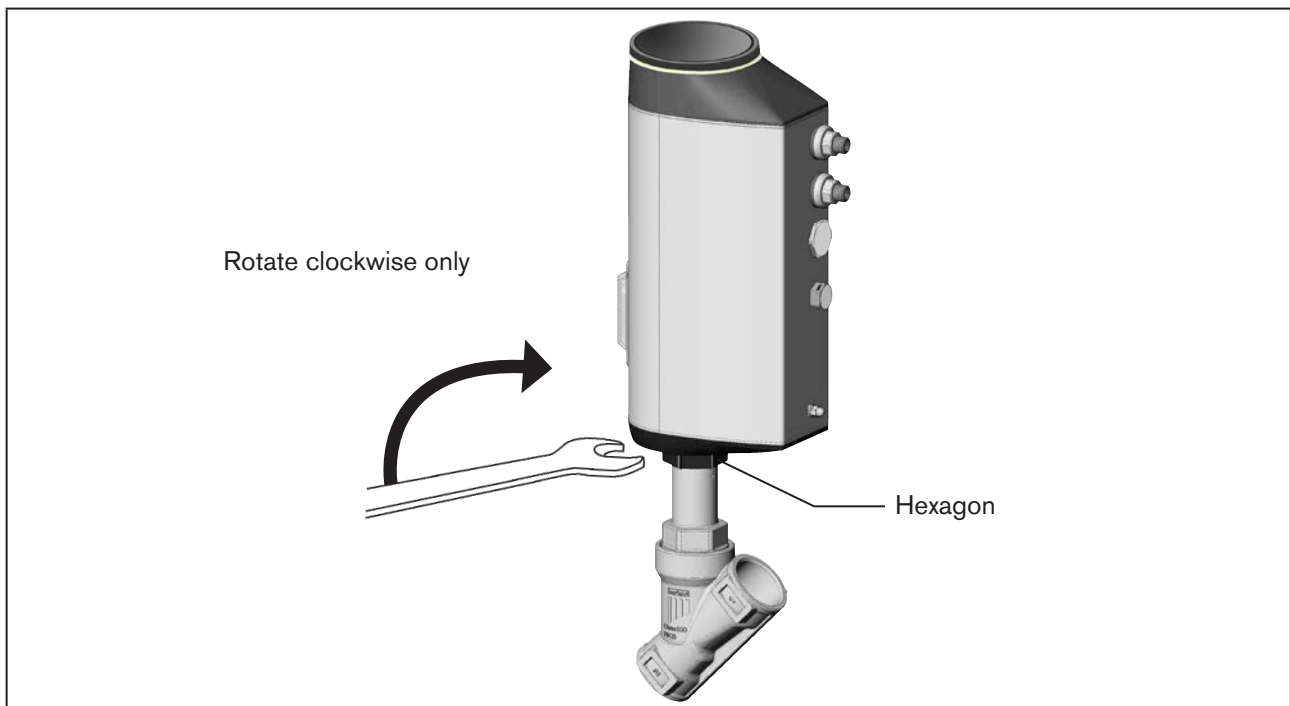

Figure 16: Rotating the actuator
- ▶ Rotate actuator in the indicated direction only (see "Figure 16: Rotating the actuator").